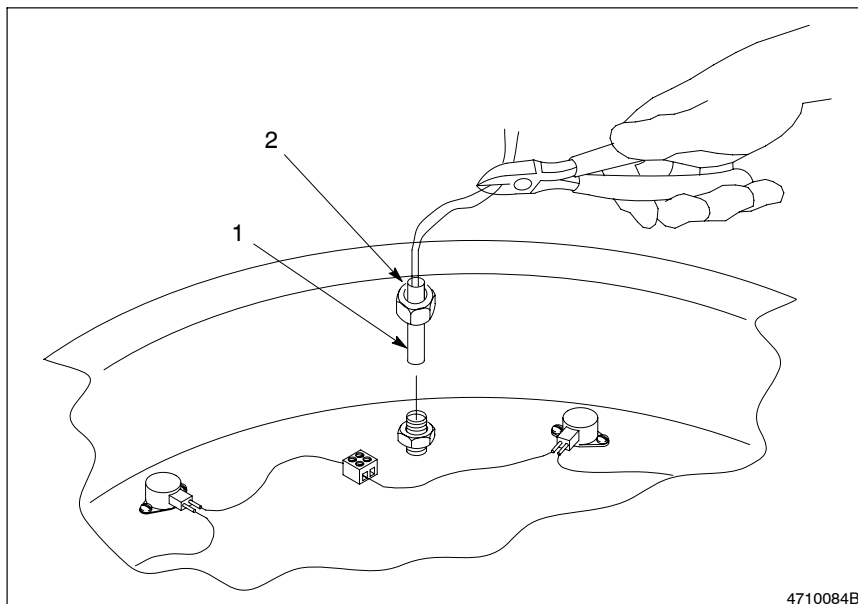

Fig. 7-7 Removing the RTD
7. See Figure 7-7. Cut the RTD leads at the platen. Remove the connector nut and attached RTD.